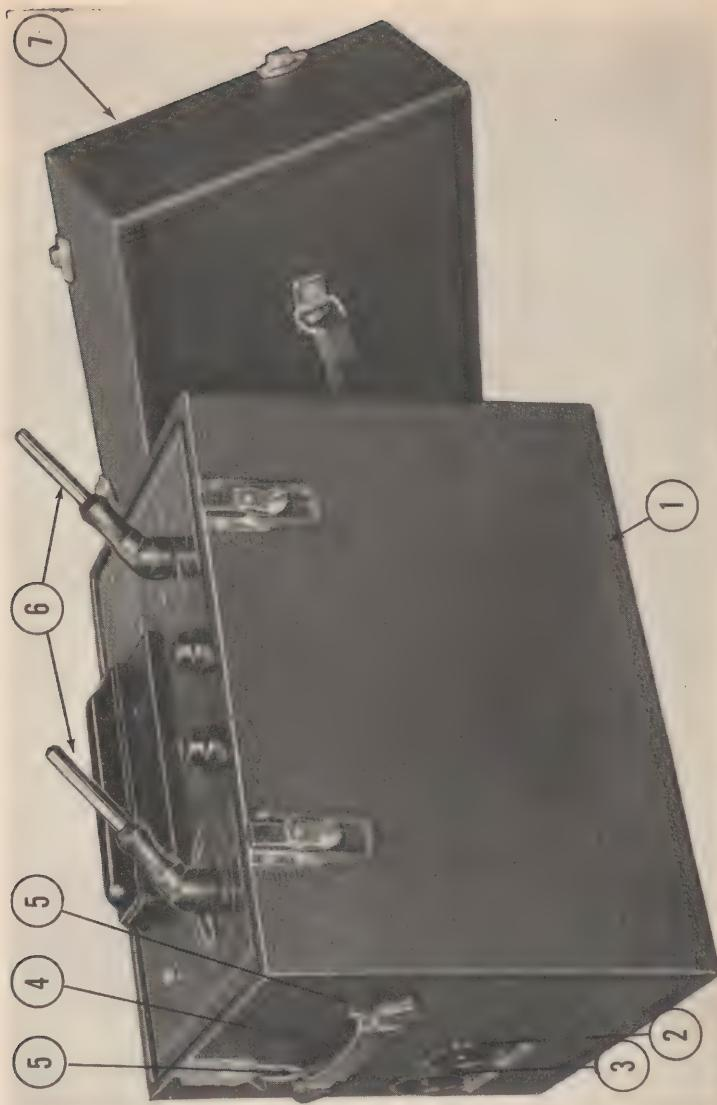
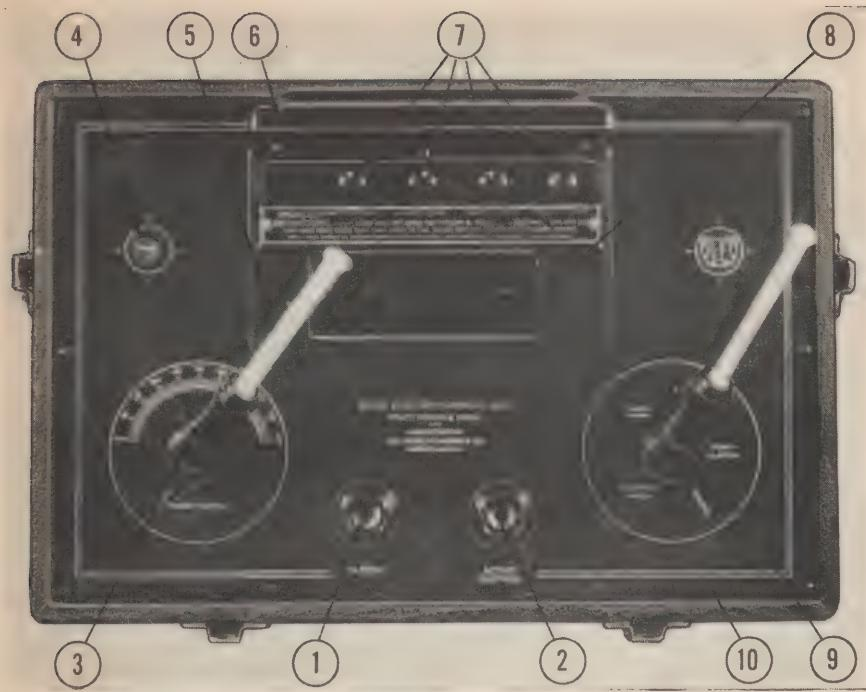
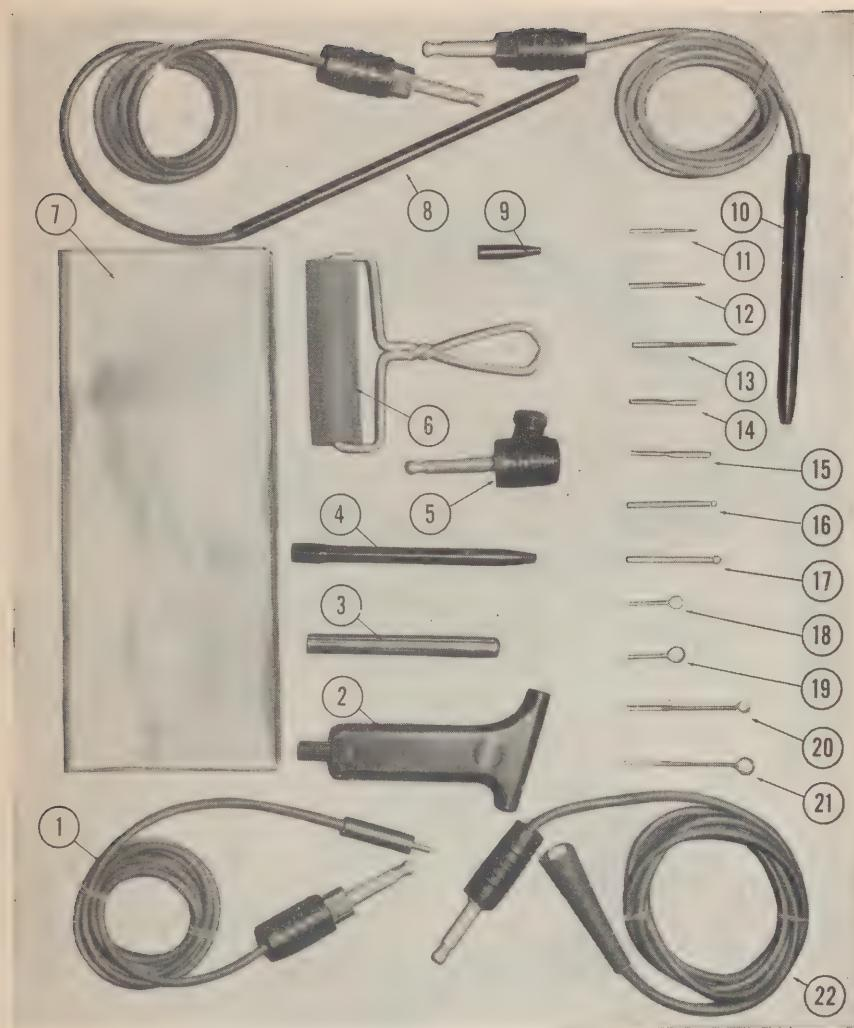
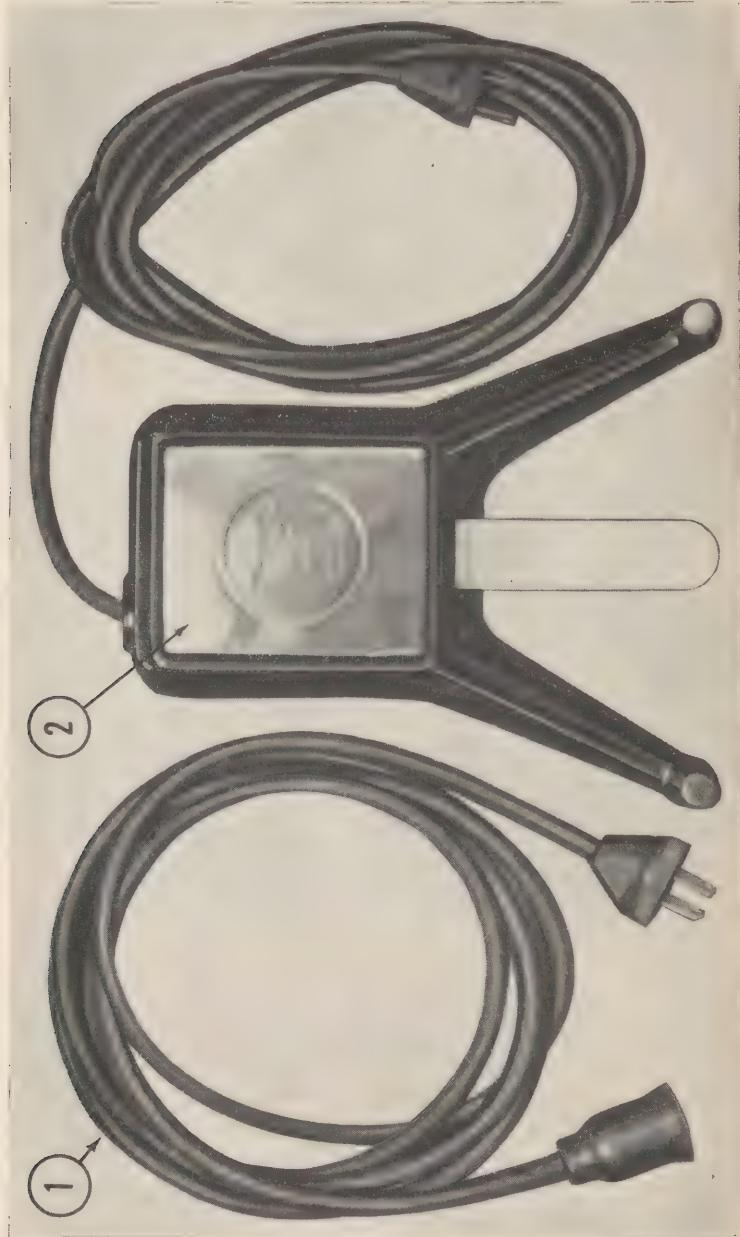

Figure 1. *Electro-Surgical Unit, Portable.*
Figure 2. Electro-Surgical Unit, Portable, top view.
Figure 4. Accessories.
Figure 5. Foot switch and supply cord.
1. SCOPE. This manual is published for the information and guidance of all personnel charged with the operation and maintenance of Electro-Surgical Unit, Portable, Medical Department No. 36703 (fig. 1) in the field. This manual is concerned chiefly with assembling, operation, maintenance, and packing of the unit. There is appended a standard nomenclature list of parts. Illustrations show the component parts and accessories described in the text.
2. DESCRIPTION. The Electro-Surgical Unit, Portable, item No. 36703, a standard type electrical surgical unit with two high-frequency oscillating currents combined in a single housing. One current generated is a cutting current, the other is a highly damped wave form for coagulation. A single selector switch permits instant change from cutting to coagulating current without release of the electrode in hand. A foot switch, 3R01656 (fig. 5), completes the control system. The unit is mounted in a compact, portable case with a compartment in the cover for accessories.
4. ASSEMBLIES. The Electro-Surgical Unit, Portable, consists of the unit completely inclosed in the carrying case (figs. 1, 2, and 3) and the accessories (figs. 3, 4, and 5) inclosed in the cover.
a. The unit includes the carrying case, complete with handles and hasps, 3R01704 (fig. 1), the various controls, and spark gap assembly, 3R01652 (figs. 3 and 6).
b. The accessories include the foot switch, 3R01656 (fig. 5), the supply cord, 3R01646 (fig. 5), and the operation electrodes and handles (fig. 4).
- b.** Connect supply cable, 3R01646 (fig. 5), and foot switch, 3R01656 (fig. 5), to plugs on side of case (fig. 1). Spark gap adjustment should be made at this point before other accessories are assembled. (See par. 8.)
- c.** Connect indifferent electrode, 3R01644 (fig. 4), to the terminal marked "Patient", using the cord with clip on one end and round plug on the other, 3R01618 (fig. 4). The clip is fastened onto the metal indifferent plate, 3R01644 (fig. 4).
- d.** When used with aseptic surgery the various parts that require touching or handling during operation should be sterilized before they are connected. These parts include the handles, 3R01604 (fig. 1), the chuck handle and cord and the required operating electrodes (fig. 4). (See par. 10).
- e.** Insert sterilizable handles, 3R01604 (fig. 4), into handle holders (fig. 1). Turn handle two or three turns clockwise to lock in place.
- f.** Insert operating electrode in chuck handle (fig. 4) by unscrewing to release chuck, inserting the electrode and then tightening chuck carefully.
g. Connect square terminal plug on chuck handle (fig. 4) to the terminal marked "Active Electrode" (fig. 2).
a. Disconnect supply cable, 3R01646 (fig. 5) and foot switch, 3R01615 (fig. 5).
8. ADJUSTING SPARK GAPS. **a.** Firing of the gaps may be observed through the glass window, 3R01694 (fig. 2). Immediately above each gap is its adjustment knob, 3R01650 (fig. 2). Turning the knob clockwise closes the gap; counterclockwise opens the gap. As the quality of the current is dependent on spark gap adjustment, it is essential that this operation be accurately and properly performed.
b. First move selector switch (fig. 2) to either the "Scalpel" or "Coagulation" position. Step on foot switch, 3R01656 (fig. 5) to start current flow through gaps. Then look at the gaps through observation window, 3R01694 (fig. 2). If any of the gaps are not firing, turn the proper adjusting knob, 3R01650 (figs. 2 and 6) counterclockwise to open the gaps slightly until all start to fire. It is essential that all gaps be firing prior to adjustment.